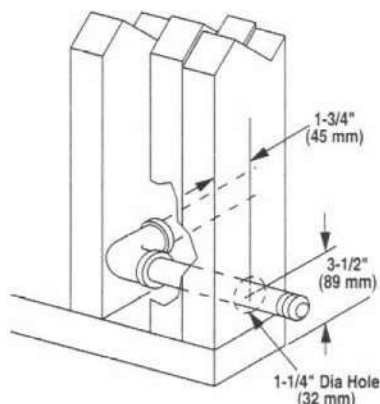

Figure 8
**Step 2.** Route a 1/2" (13 mm) black iron gas line along the left side framing. Drill clearance hole as shown in Figure 8.